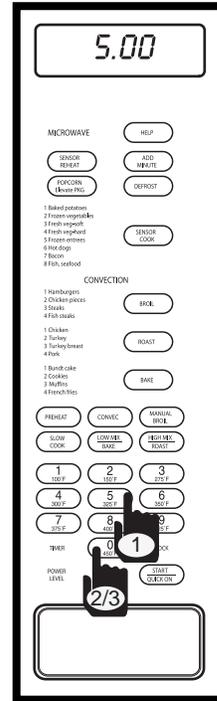

Figure 3-40.
2. Enter desired cooking time. Press the number 5 key and number 0 key twice. The display will flash "5.00 - PRESS - START" (See Figure 3-40).